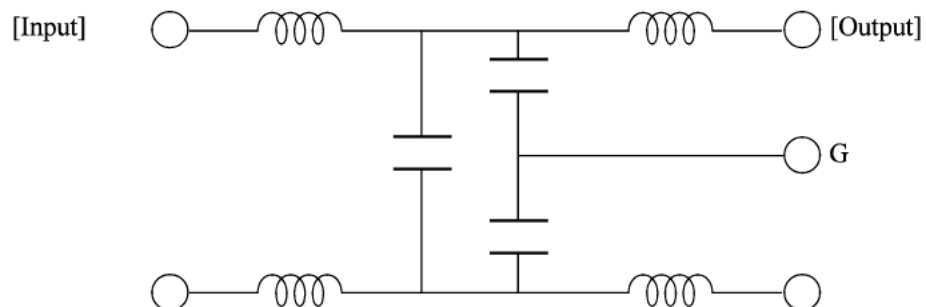

Figure 3.9 AC noise filter (recommended)
- Circuit construction: T-configuration as shown in Figure 3.9 is recommended.